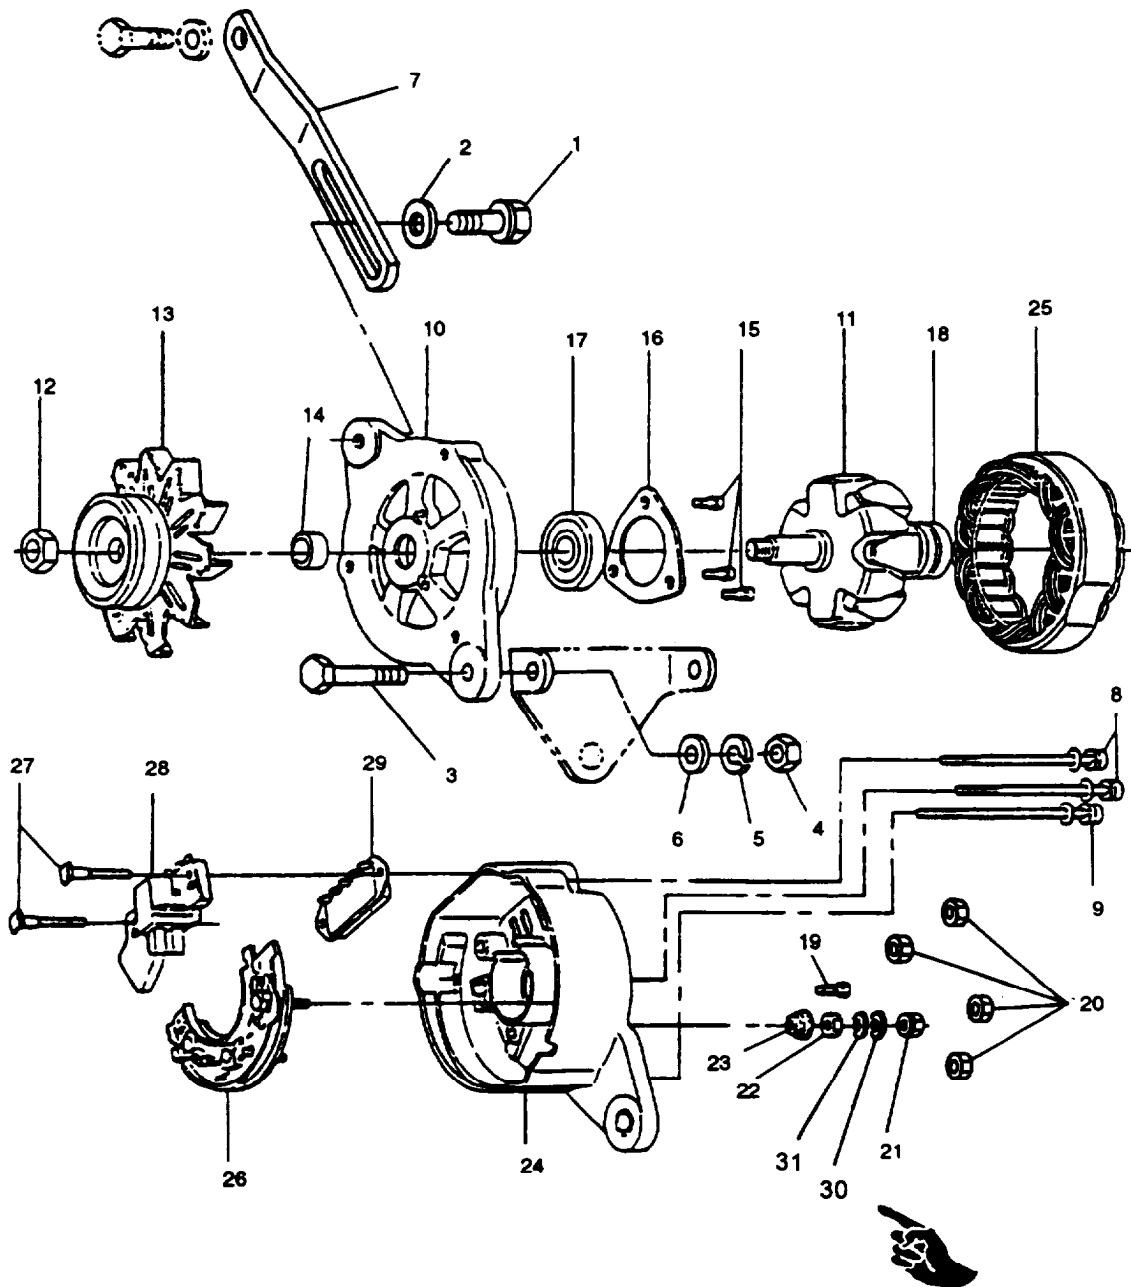

FIGURE 3-49. Alternator Assembly
- a. Benchmark front cover (10, FIGURE 3-49) stator (25) and rear cover (24) to aid in aligning parts during assembly.
- b. Connect regulator (29, FIGURE 3-49) to brush assembly (28) and solder all connections.
- c. Press bolts (27) into brush assembly (28) and regulator (29). Pressure required is 221 lbs (100 kg).
- d. Connect rectifier (26) to brush assembly (28) and solder all connections.
- e. Connect stator leads to rectifier (26) and solder all connections.
- f. Mate stator (25) with end cover (24) aligning benchmarks.
- a. If removed, position bracket (7, FIGURE 3-49) on water pump mounting and secure with bolt and washer. Tighten bolt to 30 ft-lbs (40.6 Nm).
- b. Position alternator on tower mounting bracket and secure with two bolts (3), washers (6). new lockwashers (5), and nuts (4). Do not tighten bolts.
- c. Attach alternator to bracket (7) with screw (1) end washer (2).
- d. Pivot alternator and route fan belt over pulley (13). Adjust belt tension, refer to end item maintenance manual.